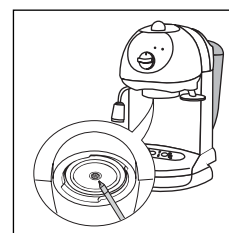

fig. 22
- Using a screwdriver, unscrew the screw that holds the outlet of the espresso boiler (fig. 22).